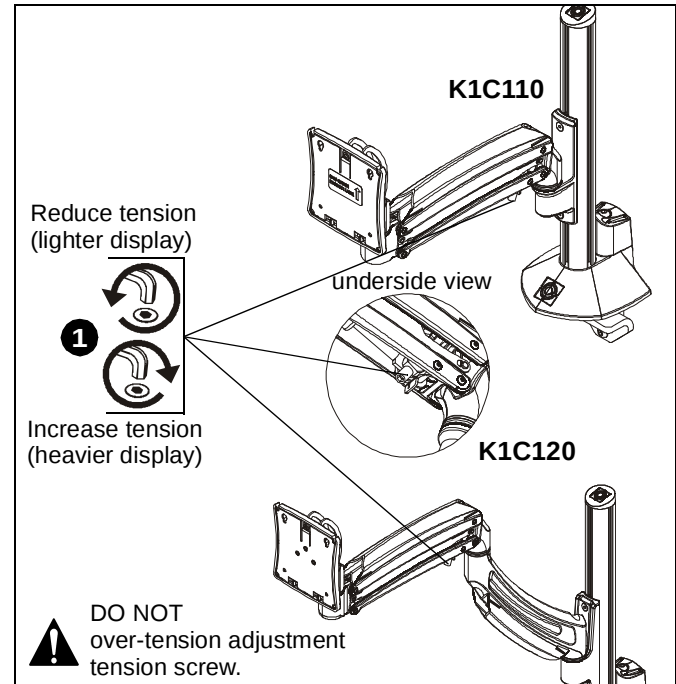

Figure 19
1. Use 3/16" hex key (P) to adjust lift arm tension adjustment screw. (See Figure 19)